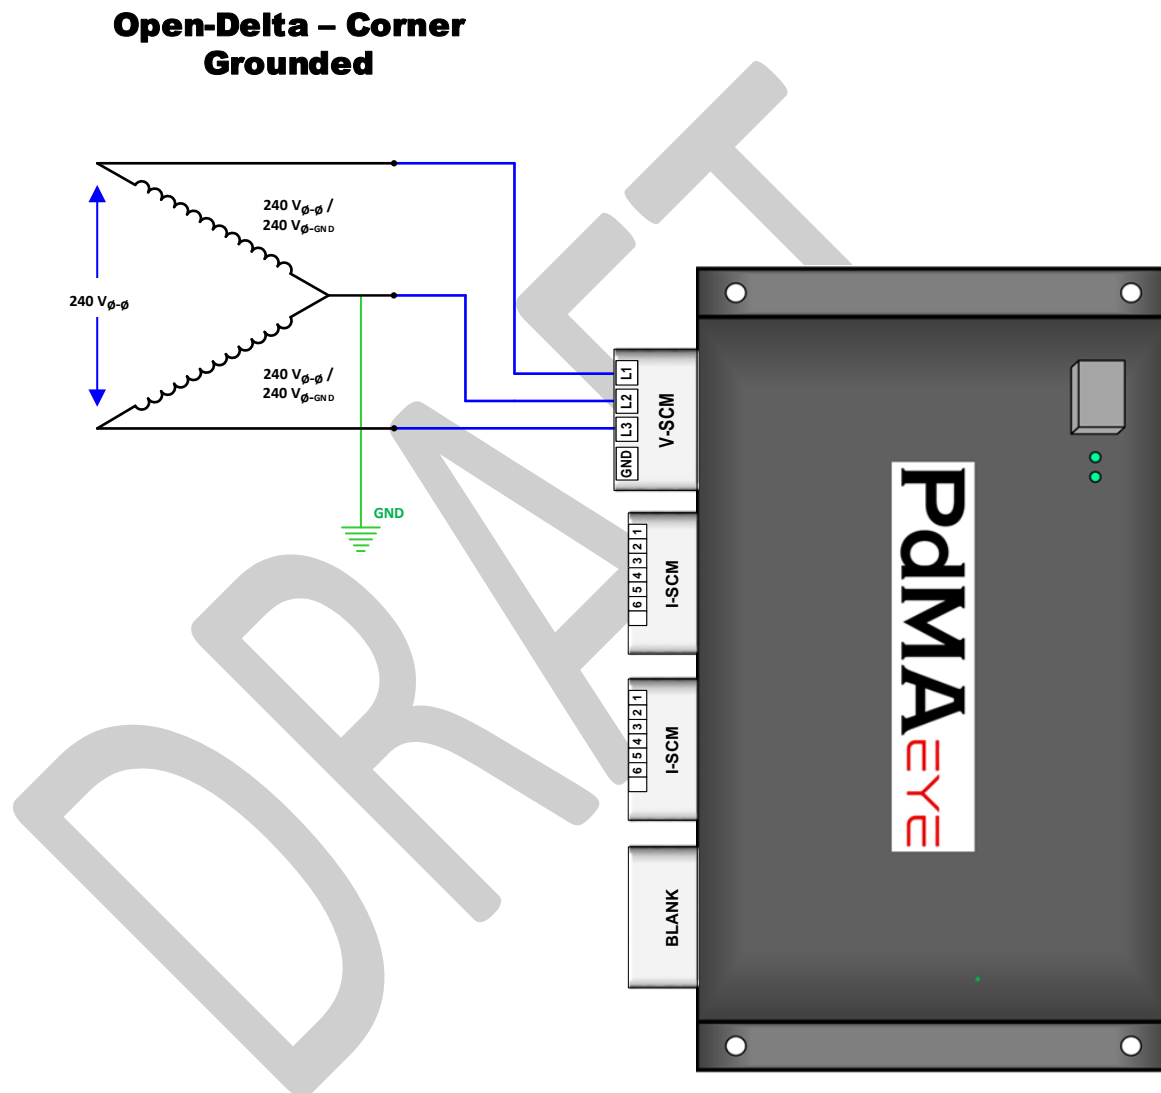
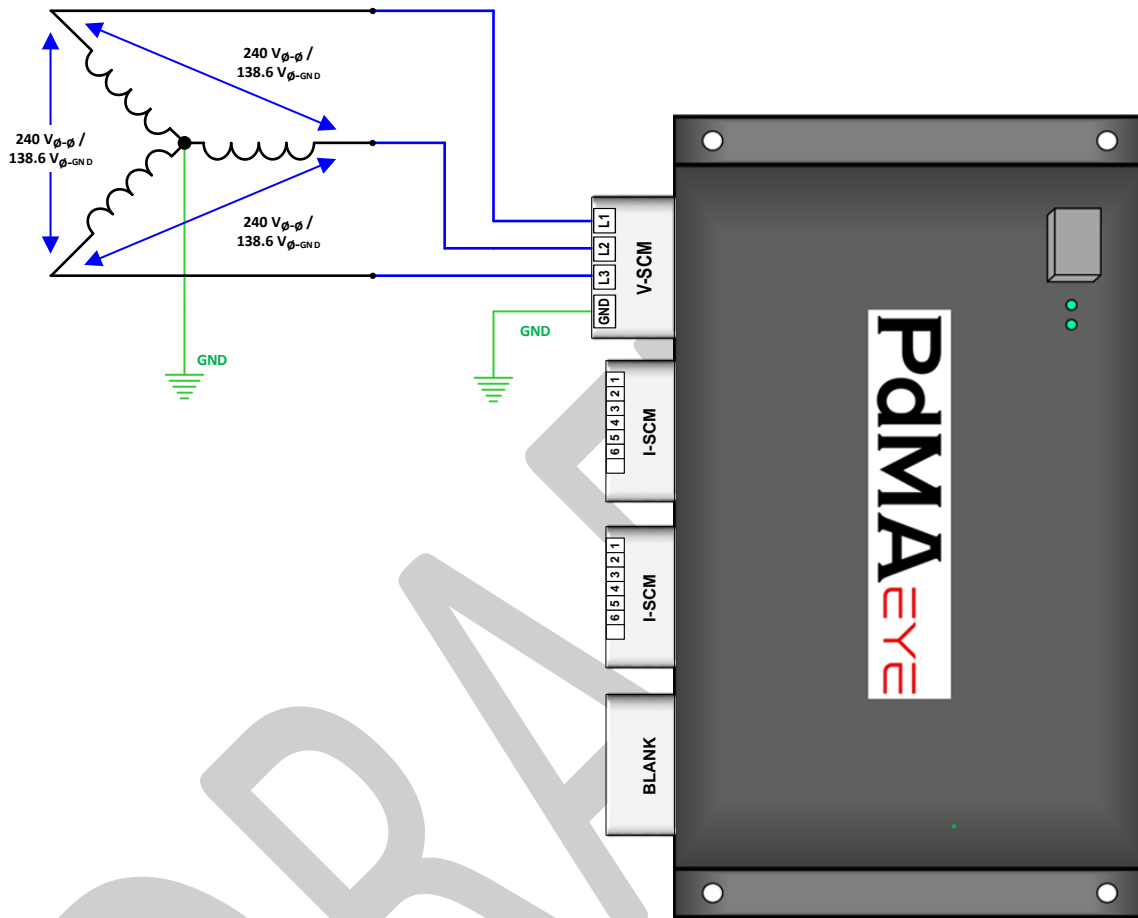

Figure 8 - Open-Delta - Corner Grounded (Typical Medium Voltage Installation)
Figure 10 – Wye-Neutral Grounded (Typical Low Voltage Installation)
Use the appropriate wiring diagram from Figure 8 to Figure 10 that coincides with either the Power System configuration or the Potential Transformer (PT) Voltage configuration.